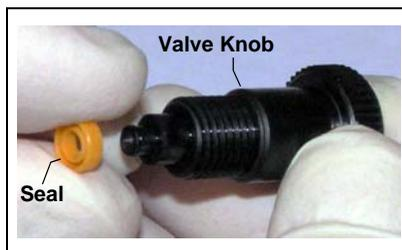

Figure 5-9. Waste Valve Seal Replacement
3. If the seal is removed with the valve knob in Step 2, pull the seal off the end of the knob (see Figure 5-9).